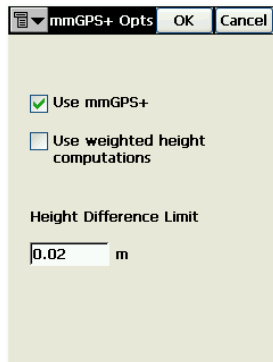

Figure A-23. Select mmGPS+ Options
2. On the *mmGPS+ Options* screen, select the following options (Figure A-23 on page A-14):
3. Enter a *Height Difference Limit* between the GPS result and the mmGPS result (Figure A-23 on page A-14). tap **OK**.